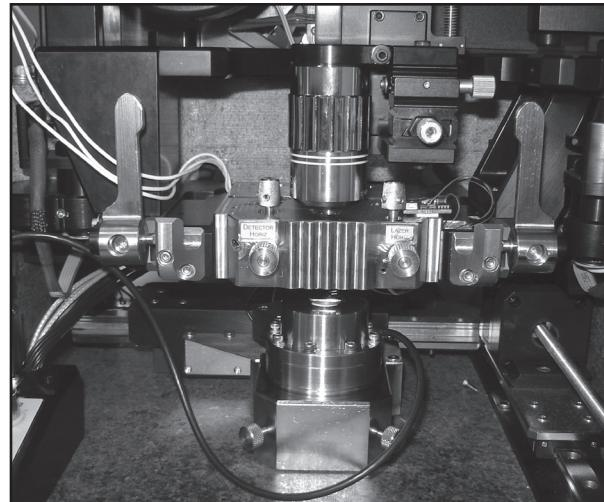

Figure 4.24: Rapid Scanner with the sample is in “ready” position.
8. Put the Rapid Scanner in, plug the connector into the stage SAC. Tighten the screws. Make sure that the scanner cable is in either the 3 p.m. or 6 p.m. position with the metrology scanner. Rotate the puck so that the PNI reference sample is square with the scanner head (Figure 4.24).